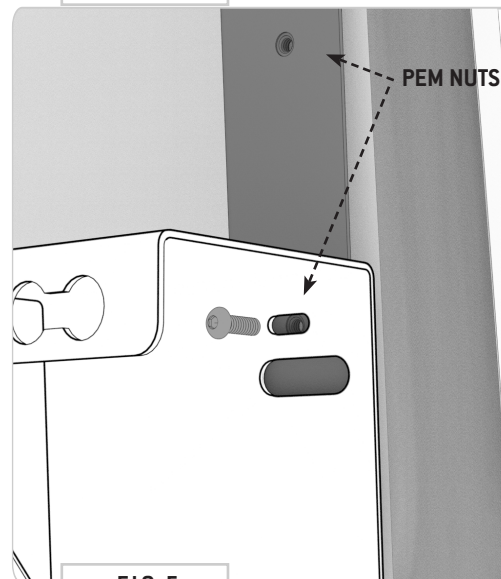

FIG 5
2.3b Raise bed rails up to Bed Brackets, align mounting slots to corresponding pem nut locations and secure bed rails to brackets using 1/4-20 screws (**FIG 5**).